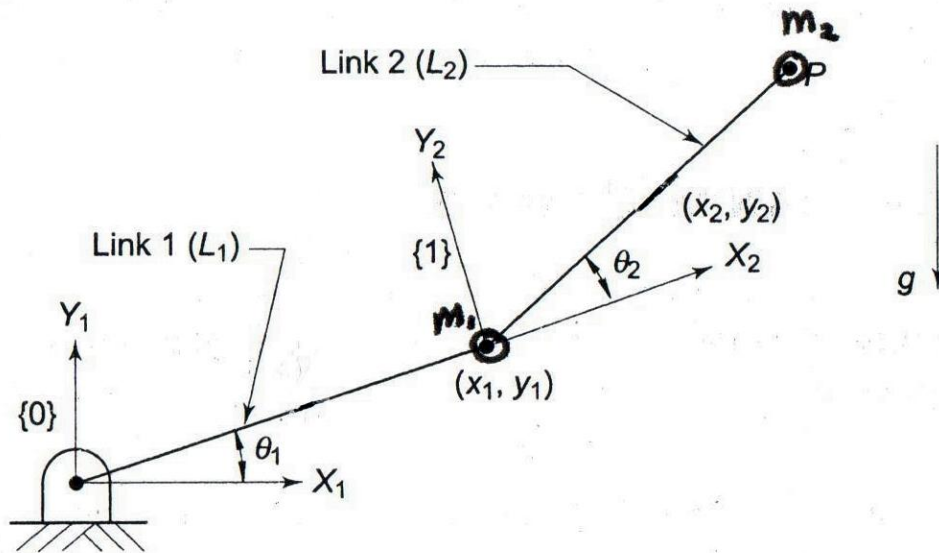

Figure 5(b)
- (b) Determine the equation of motion for the 2DOF manipulator shown in Figure 5(b) using the Lagrangian-Euler approach. (Please refer to question 5(c). Assume L_1 and L_2 have M_1 and M_2 at the end of respective links.